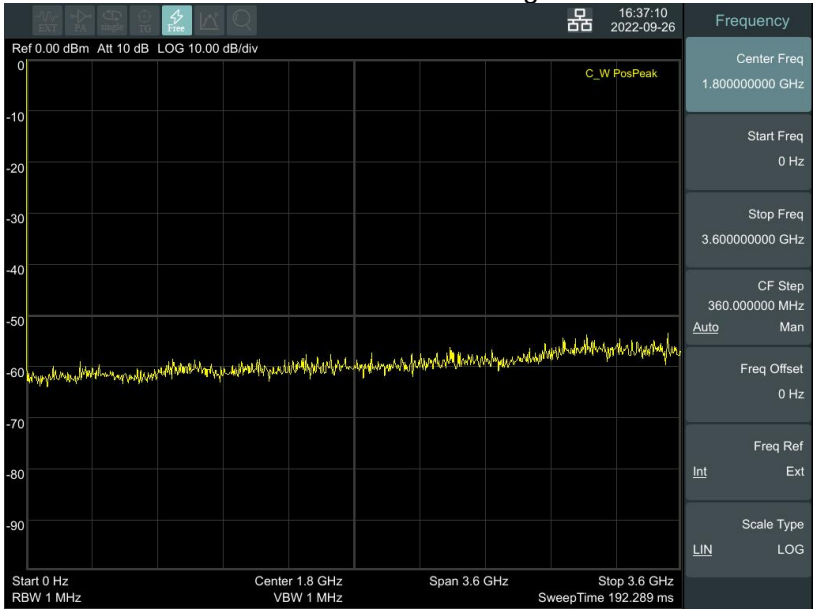

Figure 4- 8 Full Span
- 1) Press **【Preset】** to restore the analyzer to its factory-defined state. The Spectrum analyzer will display the spectrum from DC to the maximum span width. The signal generated will display as a vertical line at 100MHz. Refer to Figure 4- 8.